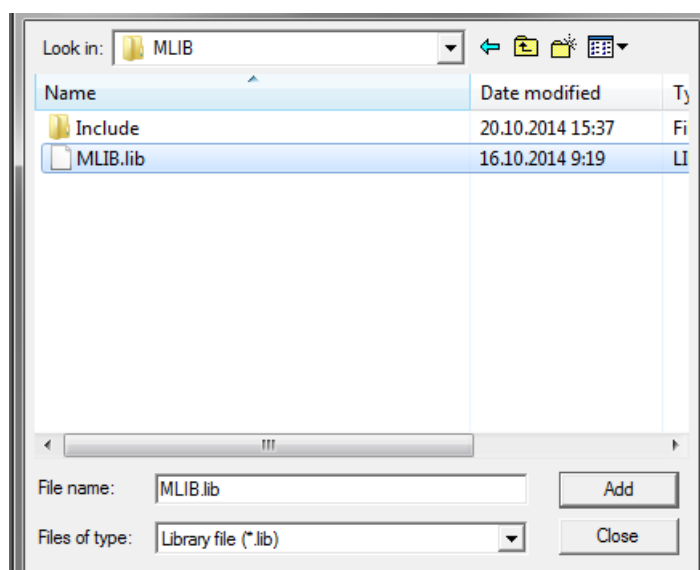

Figure 1-34. Adding .lib files dialog
5. Navigate to the parent folder C:\NXP\RTCESL\CM0_RTCESL_4.5_KEIL\MLIB, and select the *mllib.lib* file. If the file does not appear, set the Files of type filter to Library file. Click Add. See Figure 1-34.